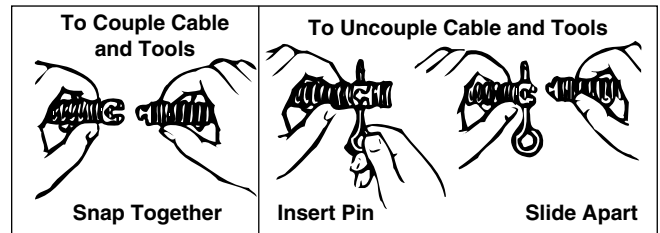

Figure 5 – Coupling and Uncoupling Tools
6. Select and install the proper tool to the end of the cable. The T-Slot Coupler allows the tool to be snapped into the cable coupler (*Figure 5*). To remove tool, use the pin key to depress the plunger and slide the coupler apart.